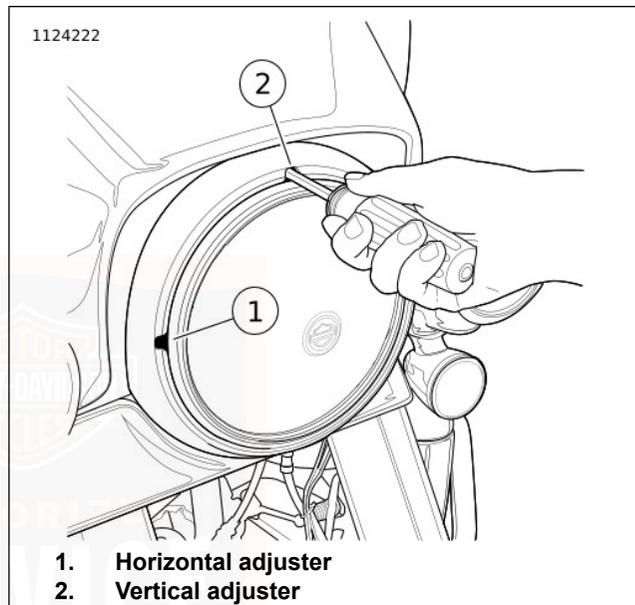
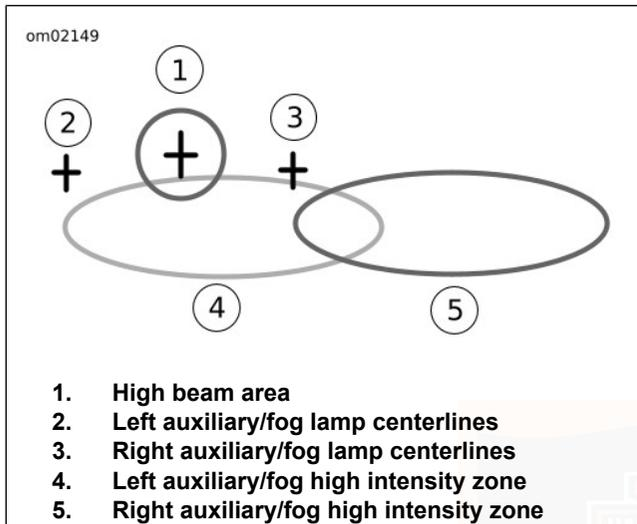
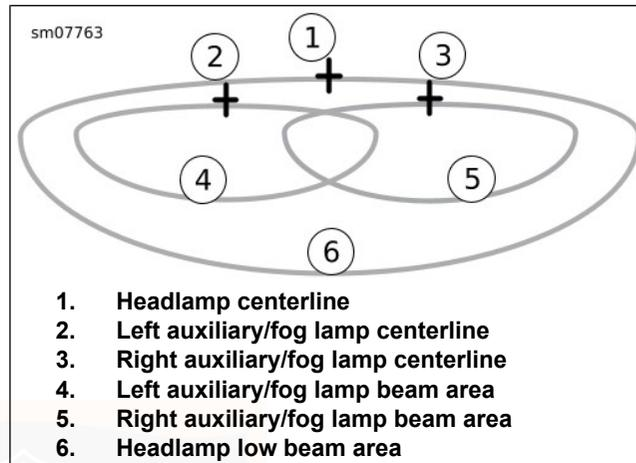

Figure 95. Headlamp Adjusters: All except Frame-Mounted Fairing (typical)
Figure 98. Headlamp Pattern: Quartz Halogen Type
Figure 99. Headlamp Pattern: LED Type with Auxiliary/Fog Lamps
2. **All except frame-mounted fairing:** See Figure 95. Insert a 5/32 in ball end hex wrench through adjuster slots in trim ring.
- a. **Horizontal:** Turn the horizontal adjusting screw (1) to adjust light beam left and right.
- b. **Vertical:** Turn the vertical adjusting screw (2) to adjust light beam up and down.
- c. See Figure 98 or Figure 99. Adjust headlamp light beam.
4. See Figure 98 or Figure 99. Mark the auxiliary/fog lamp horizontal and vertical centerlines (2, 3) on the wall.
Figure 98 shows a pattern for motorcycles in countries that drive in the right lane. Flip the graphic horizontally for countries that drive in the left lane.
- a. **Quartz halogen:** Adjust the left auxiliary/fog lamp so the entire high intensity zone (4) is below and to the right of the left auxiliary/fog lamp centerlines as shown in Figure 98.
- b. **LED:** Adjust the left auxiliary/fog lamp so the entire high intensity zone (4) is below the centerline as shown in Figure 99.